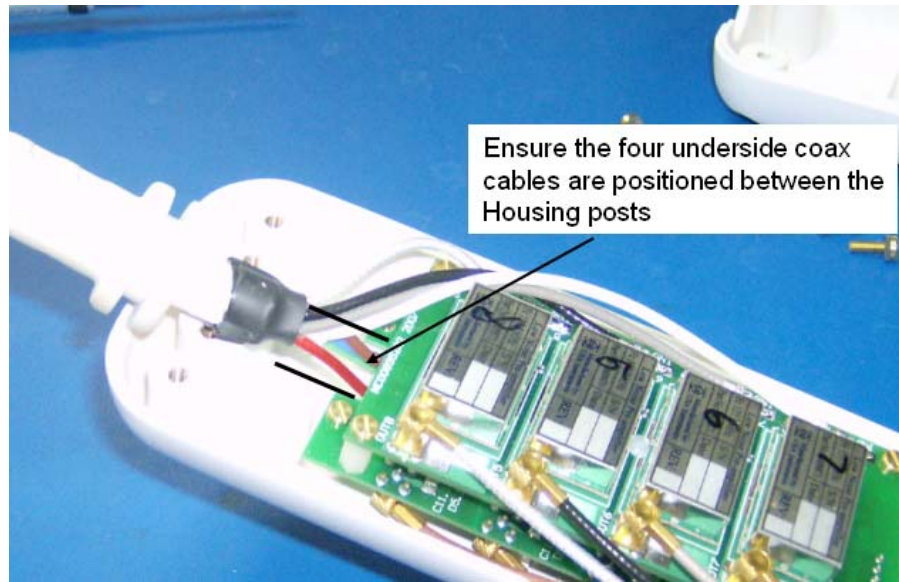

Figure 5. Coil cable placement
9. Set PCB assembly into housing and replace screws (See Figure 5 – Supplier recommended 8in/lbs torque – DO NOT OVER TIGHTEN).
- a. Pay close attention positioning of cables as stated in Figure 5